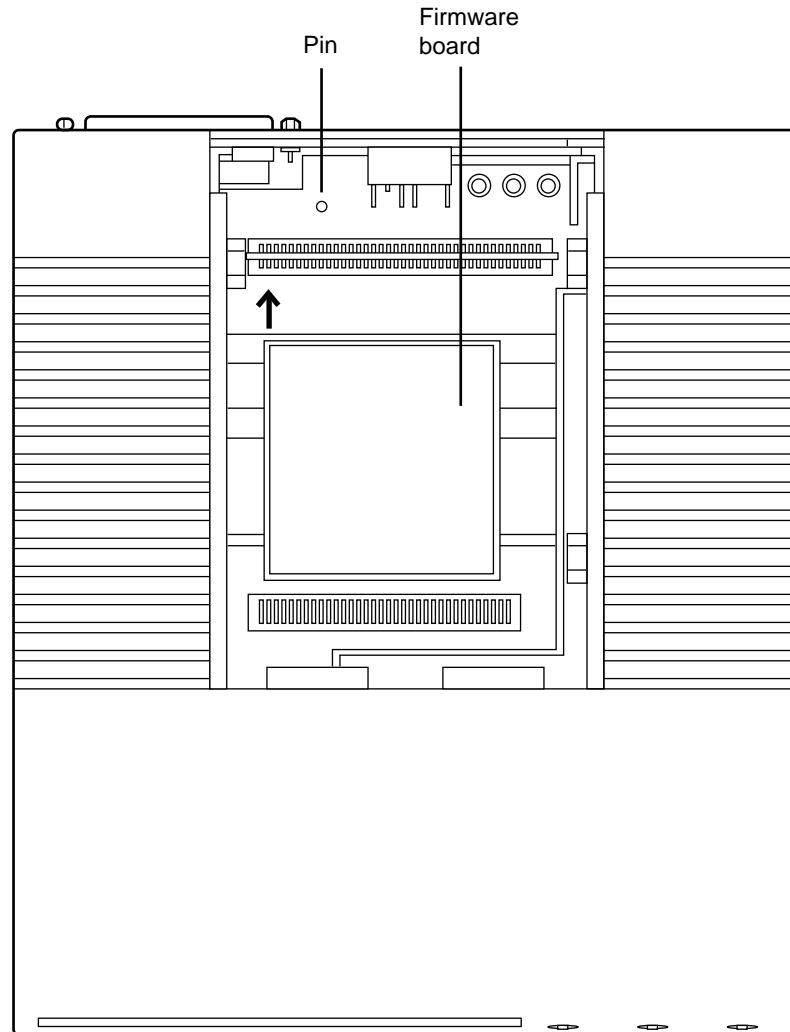

FIGURE 8-6. Location of the Board
- The vertical connector on the board should now be centered over its receptacle located in front of the firmware board already installed in the 7500 data module. See Figure 8-6.